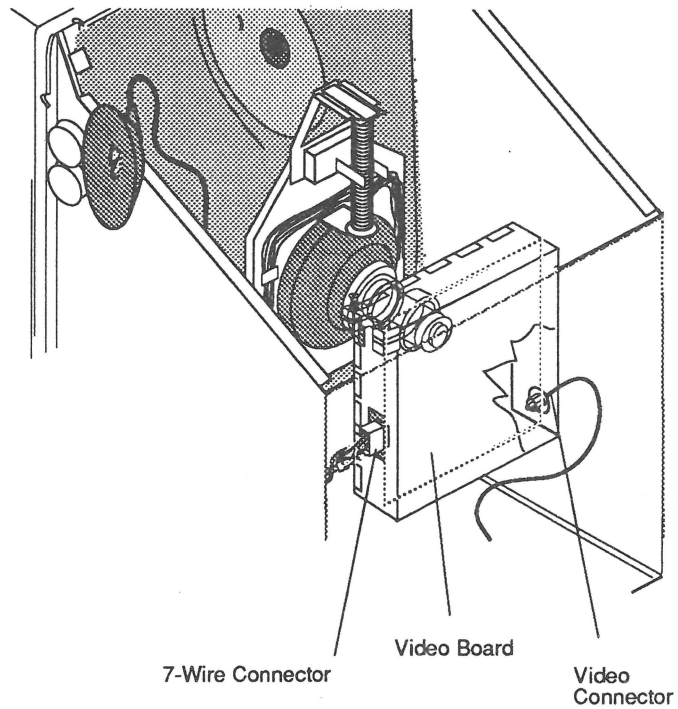

FIGURE 22
7. Disconnect the following connectors from the video board (**Figure 22**):